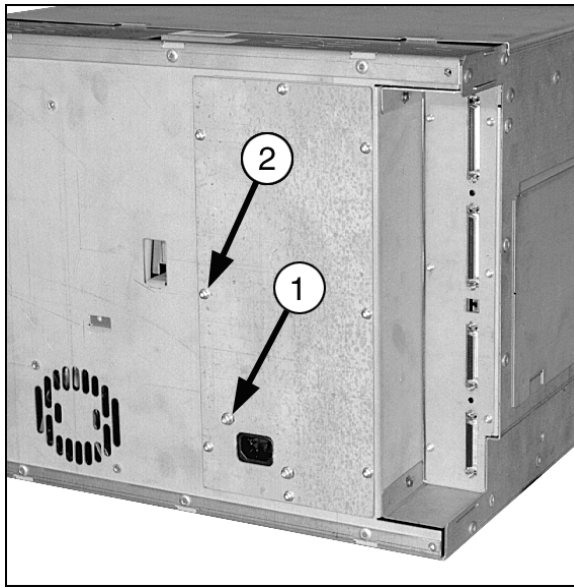

Figure 5-11. Rear Panel on the 24 V Module
2. Remove the two T-15 screws from either side of the power receptacle on the module cover panel. See Figure 5-11, (1).
3. Remove the eight T-15 screws on the module cover panel and remove the panel. See Figure 5-11, (2).